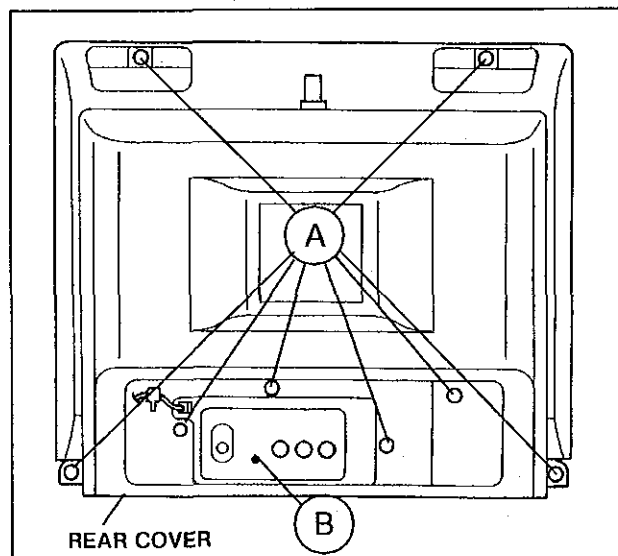

Fig. 1
2. Remove the eight screws marked (A) as shown in Fig. 1.
1. Remove the screw marked (B) as shown in Fig.1.